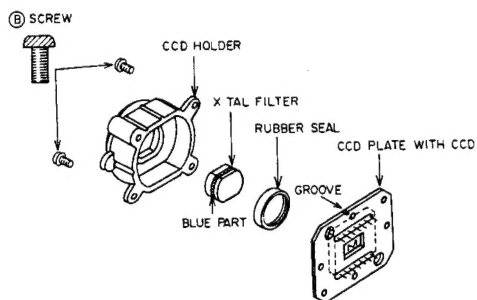

Fig.3-6
2. After confirmation that there is no dust, dirt or any finger prints on the surface of the CCD and the X'TAL FILTER, reassemble the RUBBER SEAL and X'TAL FILTER. When reinstalling the X'TAL FILTER, take care about its direction (refer to the Fig.3-6).